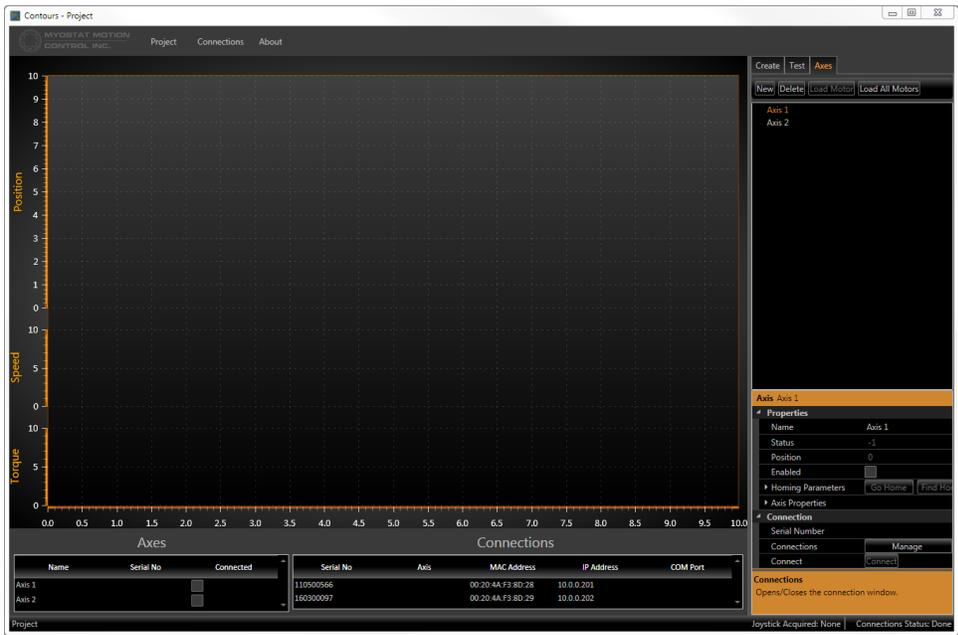

Figure 4: Contours with axes connections
- You should now have a window open similar to Figure 4.